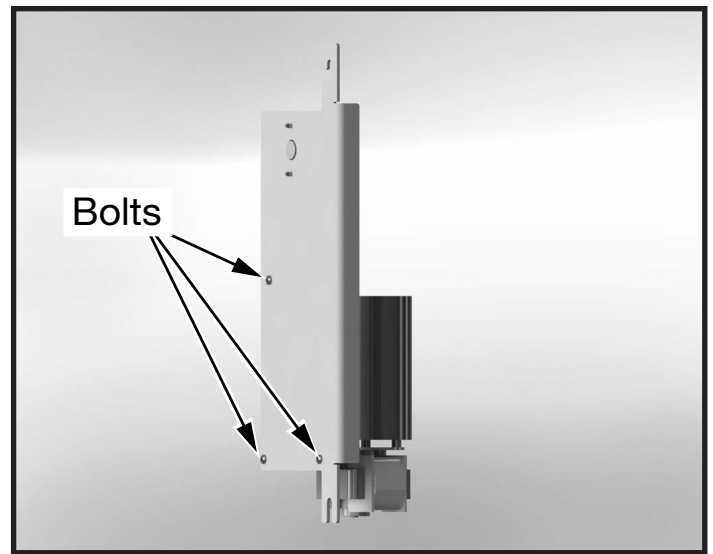

Figure 4: Blower mounting bolts.
5. Remove the three bolts securing the blower to the mounting bracket and replace the blower (Figure 4).